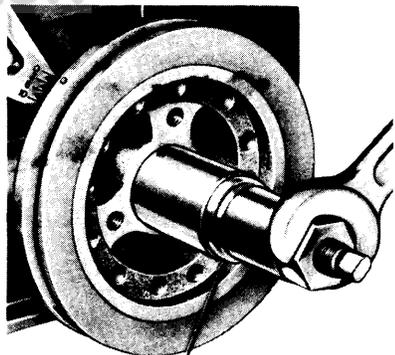

FIG. 52—Crankshaft Damper Installation
7. Line up the damper keyway with the key on the crankshaft. Install the damper on the crankshaft (Fig. 52).